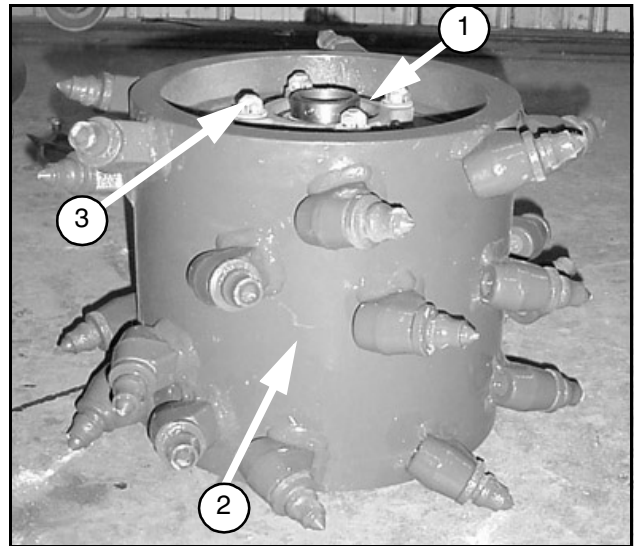

Figure 23.
1. Install the bearing (1) to the drum (2) and torque four 1/2" – 20 nuts (3) to 90 lbs-ft. (122 N-m) as shown in Figure 23.